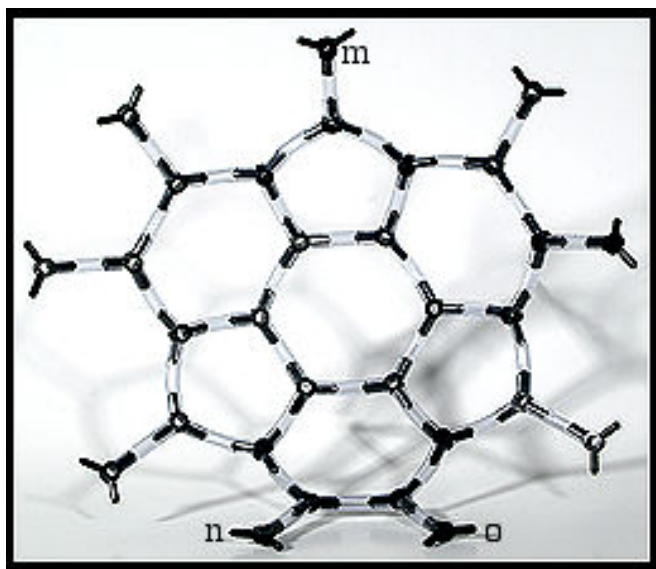
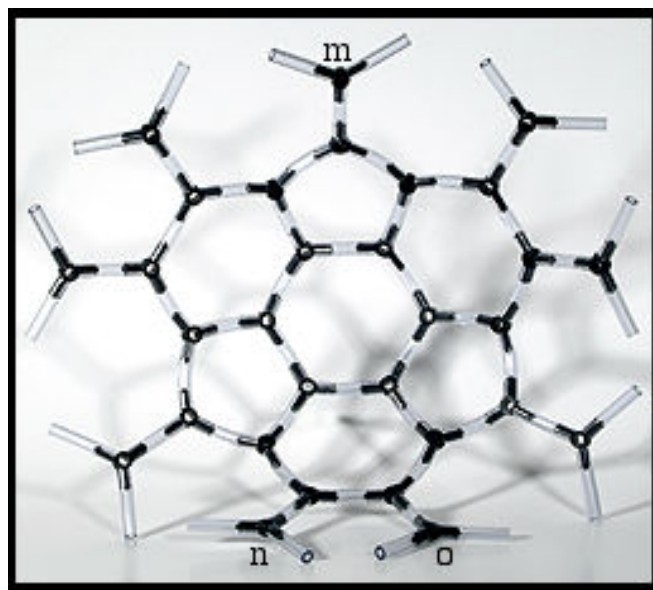

Fig. 4 Attaching nine tubes and atoms
Fig. 5 One half Buckyball
4. Using nine tubes, connect one atom center to each of the unattached pegs. (Fig. 4)
5. Repeat steps 1-4 so that you have two copies of Figure 4.
6. Attach bonds to all of the unattached pegs of one of the copies of Figure 4. See Fig. 5.
7. Attach atom m of one copy of Figure 4 to atoms n and o of the other copy of Figure 4. Connect the rest of the atoms around the edge to form the complete buckyball. See Fig. 6.